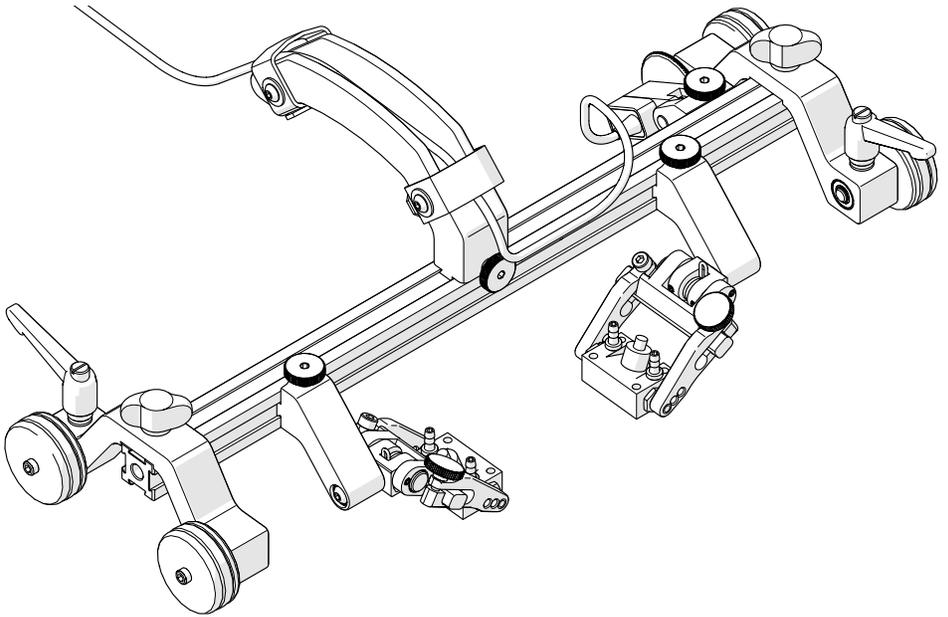

Fig. 50 - Use handle for cable management
4. Route cables and hoses through the handle (Fig. 50).